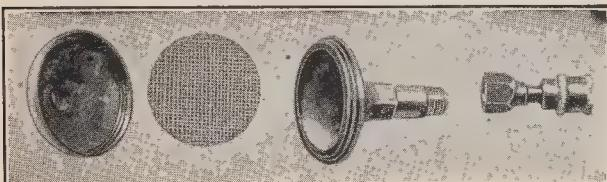
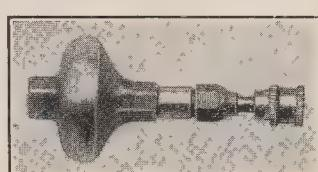

Fig. 227
Fig. 226
**The Strainer Attachment.**—Fig. 226. Here we show a very valuable and important attachment for applying to the nozzles of our sprayer. It makes no difference what crops are being sprayed, the attachment is equally valuable as it strains all the solution and prevents the particles of dirt from stopping the flow. In Fig. 227, we show the strainer together with the nozzle, taken apart,—this gives a good idea of the fineness of the screen and how effective the attachment is in preventing the stoppage of the nozzle or nozzles. The device is perfectly simple and effective,—when ordering sprayer equipped with strainers add the letter "C" to the number, thus No. 102-C. Price, strainer only (without nozzle) each